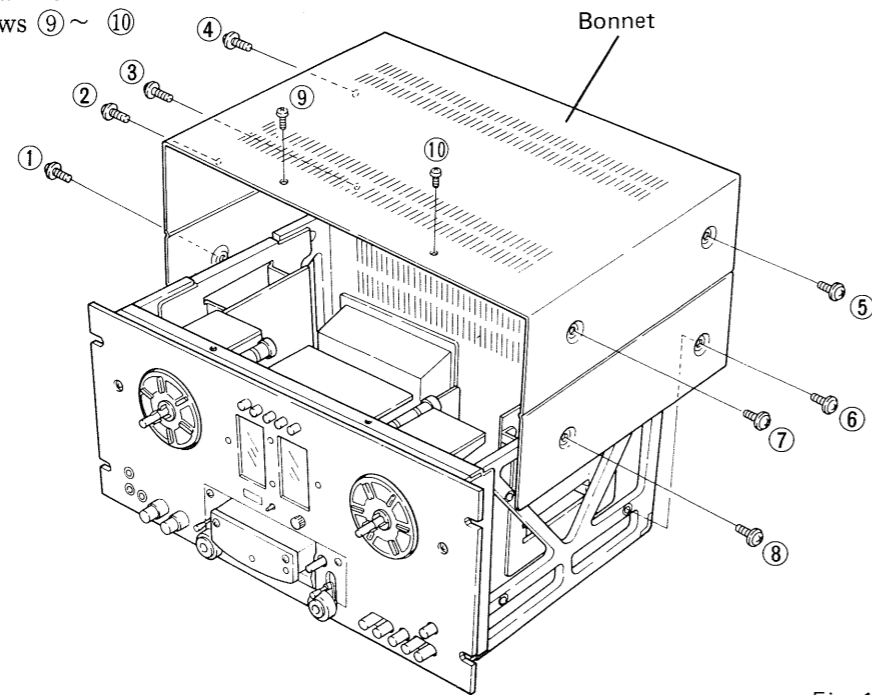

Fig. 16
Remove the screws ①~⑧ on the each side of the bonnet, then remove the screws ⑨~⑩ as shown in Fig. 16.